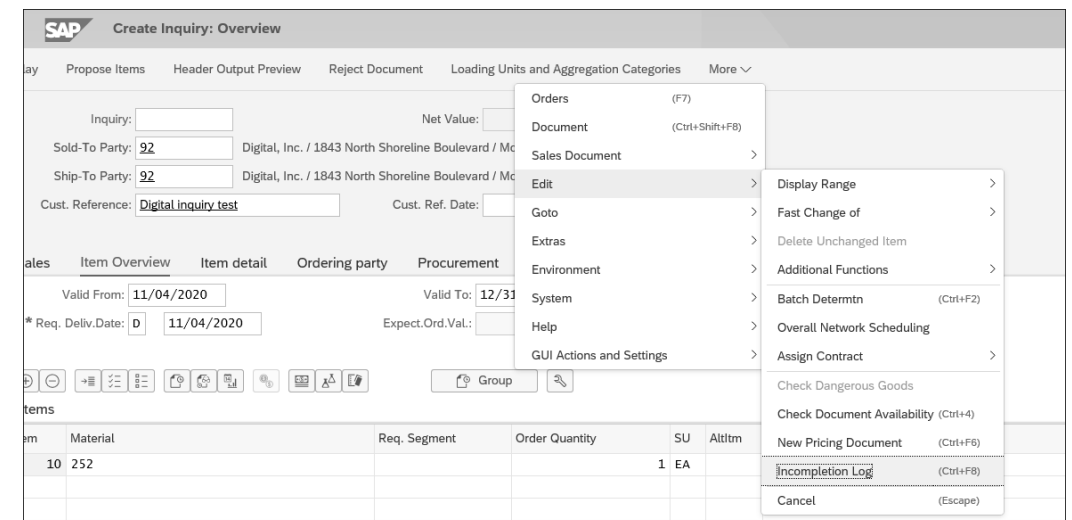

Figure 4.25 Create Inquiry: Incomplection Log in SAP Fiori
4. To see the incomplection log, go to the menu bar, and choose **More • Edit • Incomplection Log**, as shown in Figure 4.25.